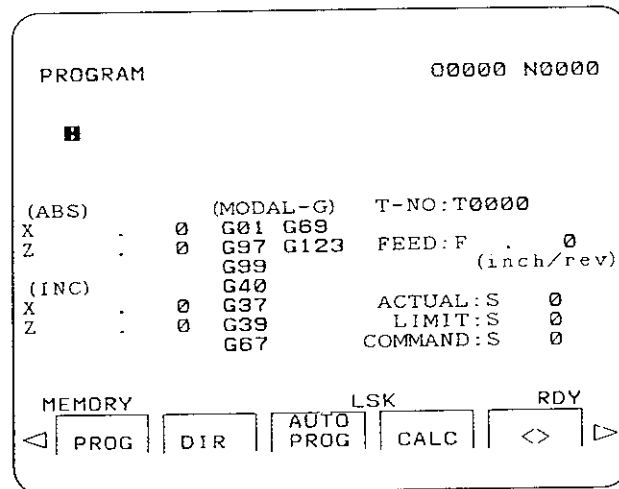

Fig. 6.1
- Display showing the NC program and operation information (Fig. 6.1)
•When the program is searched by the display of Fig. 6.1: